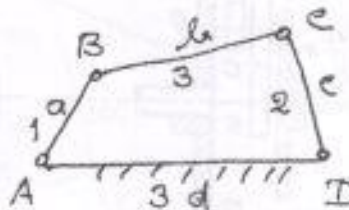

Fig.16 (b)
- b) i) Identify the type of inversion of the four bar mechanism shown in Fig 16. (b) stating the reasons for your answer. The figure indicates the dimensions in standard units of length is $a = 1$ unit $b = d = 3$ units $c = 2$ units. (4)
- ii) Find the maximum and minimum transmission angles for the same mechanism graphically and analytically and compare them. (11)